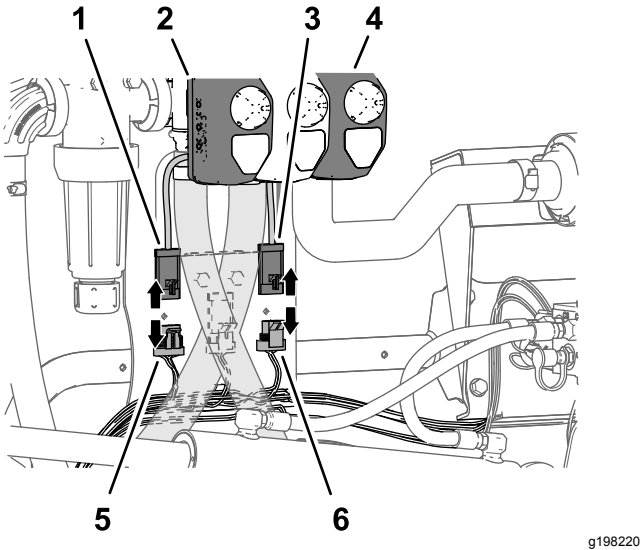

**Figure 31**
1. Disconnect the 3-socket connector labeled LEFT SPRAY VALVE, CENTER SPRAY VALVE, and RIGHT SPRAY VALVE of the machine wire harness from the 3-pin connectors of the 3 spray-valve actuators (Figure 31).